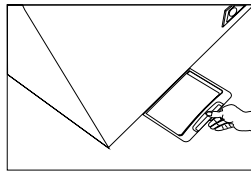

Figure 2
- 5.** Remove the drain plug by rotating. (Figure 2)